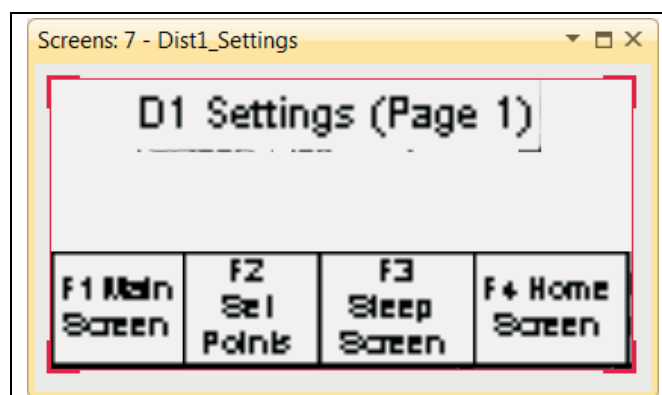

Figure 5U
7. Refer to the certified drawing that was included with the distributor for the following information to be entered: Press **F2**, enter in the number of spout locations for that spout, and then press “Enter” . Press **F3**, enter the sweep angle, and then press “Enter” . After entering in the sweep angle, press the **F6 Update** key. This updates the settings that have been entered. The Reteach Home will be flashing. This is a reminder that the distributor must be homed. Press the **F4** Return key, the screen will appear as in Figure 5U.